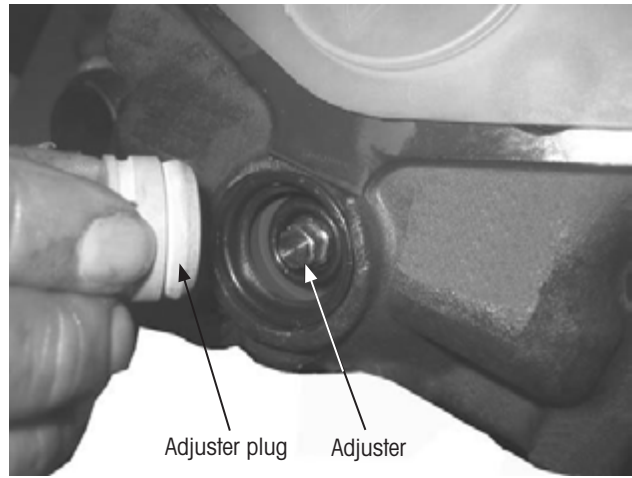

Figure 79: Removing adjuster plug
1. **Remove** the adjuster plug (Figure 79).